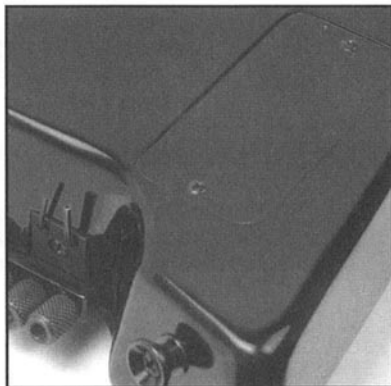

Figure 10
- Symptoms of a low-battery are unwanted distortion or no sound. If this occurs, unplug your guitar and open the battery compartment on the back of your Synapse guitar. (Figure 10) Remove the 9V battery and replace with a new one. Close cover.